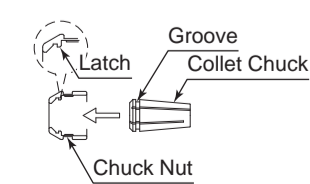

Fig. 6
- To install the collet chuck, hold the collet chuck at a slight angle, and insert it into the chuck nut (Fig. 6).